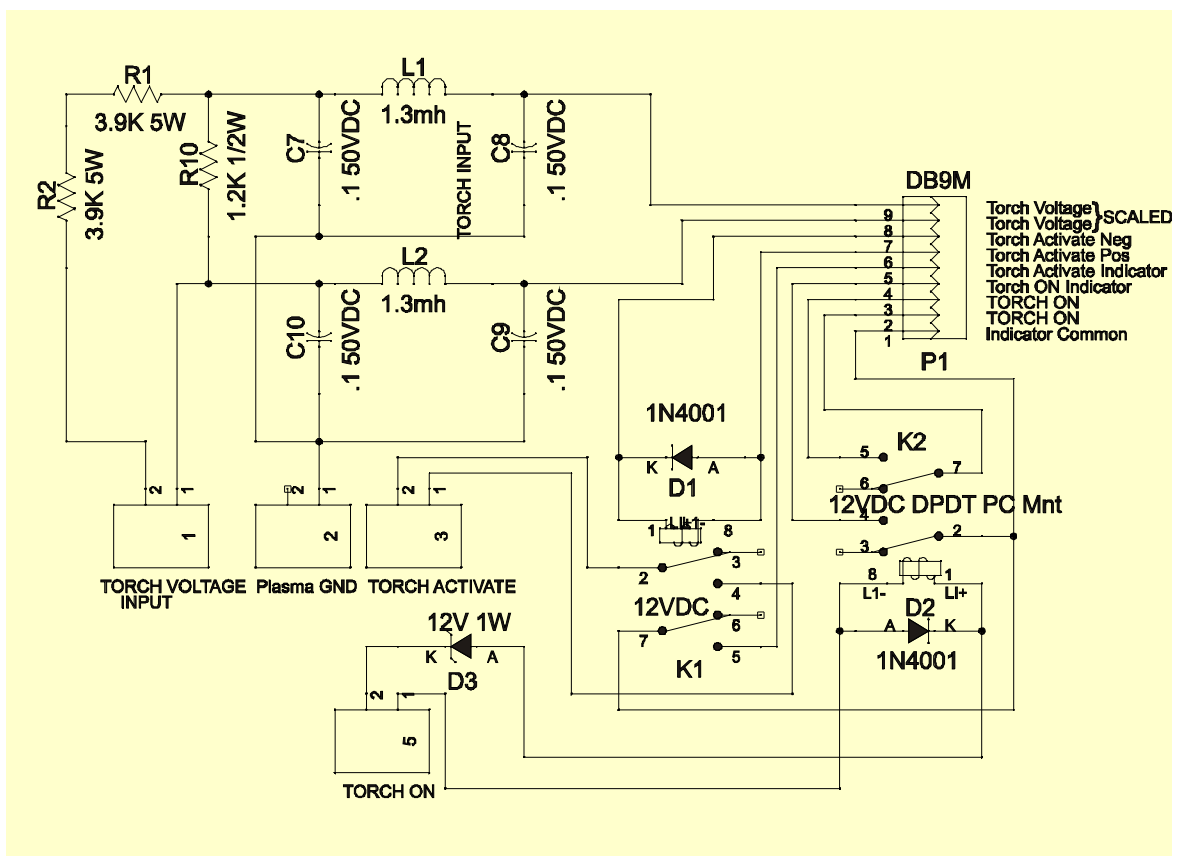
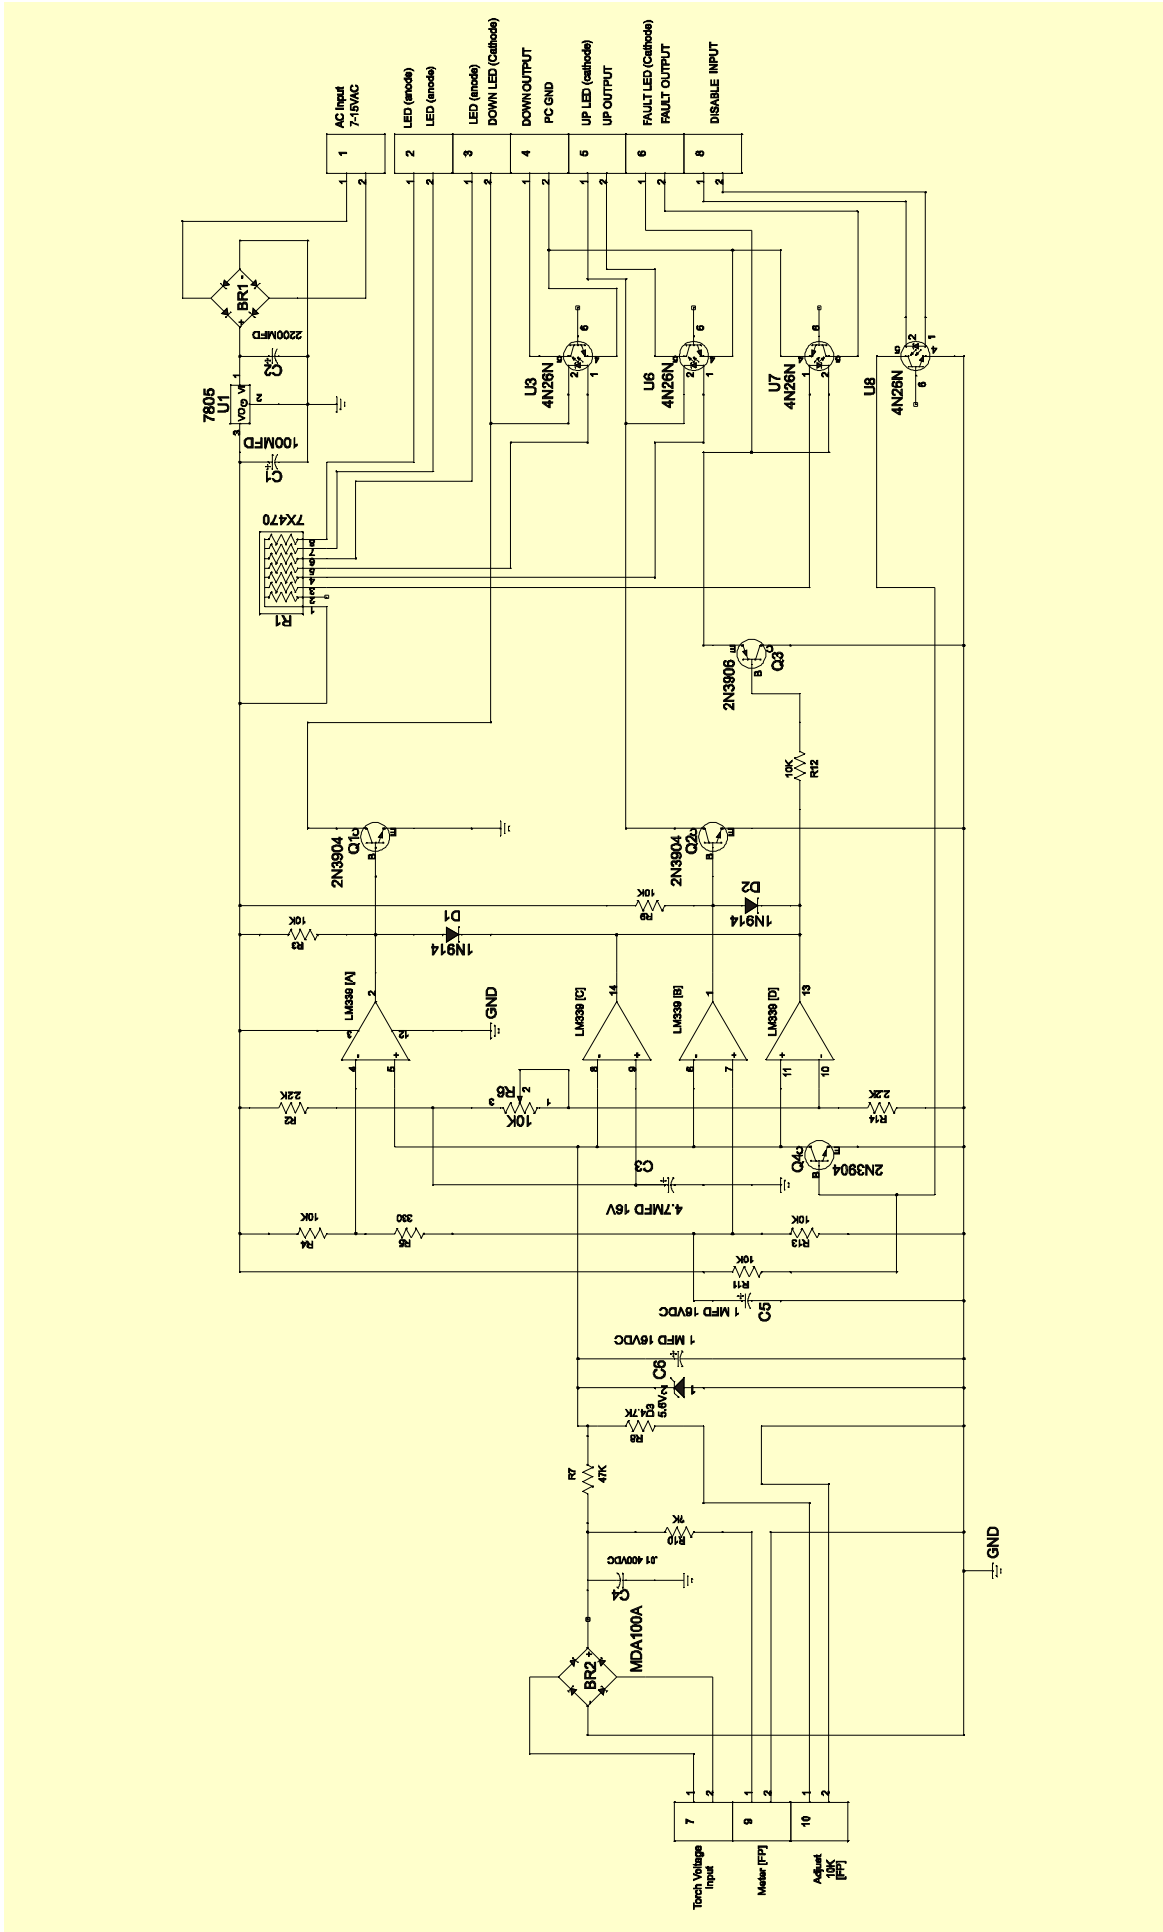

Figure 12.2 – Sample interface for Miller plasma cutter unit
Figure 12.3 – Interface from modified plasma cutter to Mach2 parallel port
2. The circuits are designed to give isolation between the THC and the computer parallel port(s) The internal plasma card (figure 12.2) located inside the plasma torch controller uses the plasma internal low voltage DC to operate relays to provide isolation of signals. The THC controller circuit (figure 12.3) has opto isolators to keep dangerous torch voltage and ground currents away from the computer.
3. The functional blocks on figure 12.2 are: (a) a potential divider and filter network for sensing the arc voltage; (b) a relay to simulate the operation of the torch trigger switch and (c) a relay to provide a contact closure when the arc is proved good by the plasma controller.
4. The functional blocks on figure 12.3 are: (d) Comparators to establish the highest and lowest acceptable arc voltages. These drive the up and down outputs which are Active Lo logic. The deadband between these voltages is adjustable. (e) Comparators to raise a fault condition if the arc voltage strays beyond limits wider than the control limits; (f) Optical isolation and front panel LED indicators for these signals. (g) A regulated DC supply fed from an isolated external transformer winding. (h) Connections for a panel mounted potentiometer (ideally 10 turn) to set the ideal torch height arc voltage and a panel mounted voltmeter to monitor the actual arc voltage.
- The THC Mach2 Controller Circuit (fig 12.3) and the THC Internal Plasma Card schematics and Printed Circuit Board artwork are copyrighted original works. You may **not** make copies beyond what is required to accomplish the goals stated above. You may **not** make additional printed circuit boards to **resell**, or **sell kits** or **finished units** based on the designs.